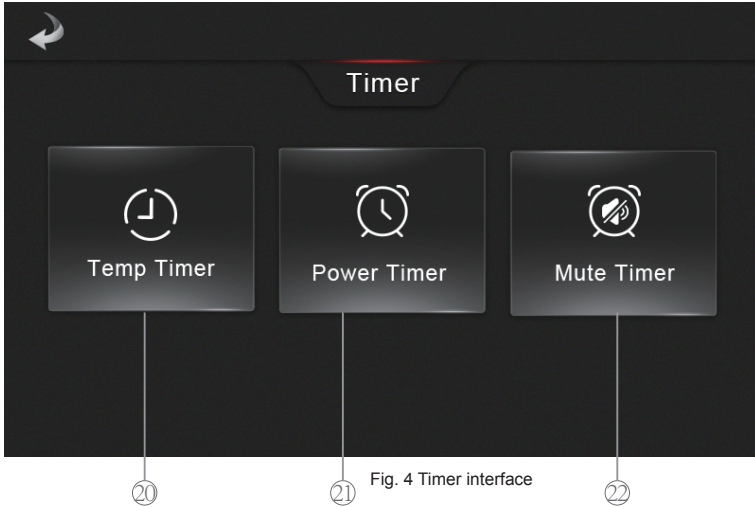

Fig. 4 Timer interface
To enable Mute Timer function, firstly press Timer button ⑤ in the main interface, secondly press Mute Timer button ② (Fig.4), it jumps to Mute Timer interface, enter the start and end timer, and lastly press on/off button to enable or disable the setting. When the Mute Timer function is enable, the main interface displays “”.